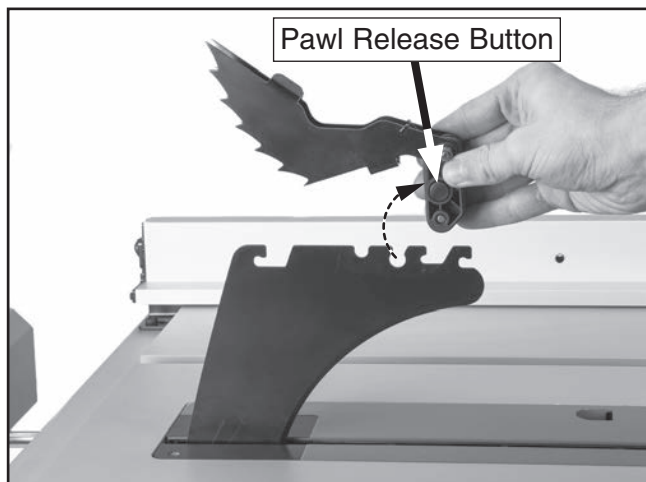

Figure 35. Removing anti-kickback pawls.
3. Push pawl release button, tilt back of pawl assembly up, then lift pawl assembly off of spreader (see **Figure 35**).